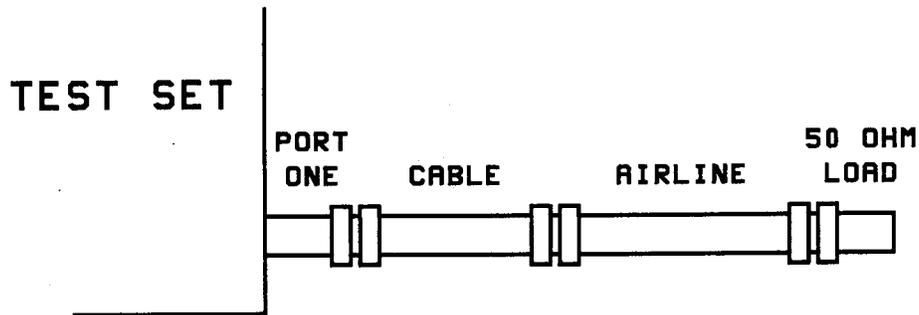

Figure 1. Return Loss set-up
**Return loss** is measured by connecting a 50-ohm fixed load termination through a 7.5 cm airline to the test cable, then attaching the cable to port one of the test set (see *Figure 1*).